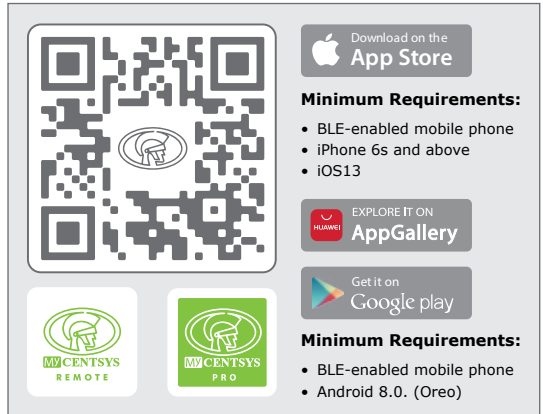

FIGURE 84
1. Scan the QR Code in Figure 84.